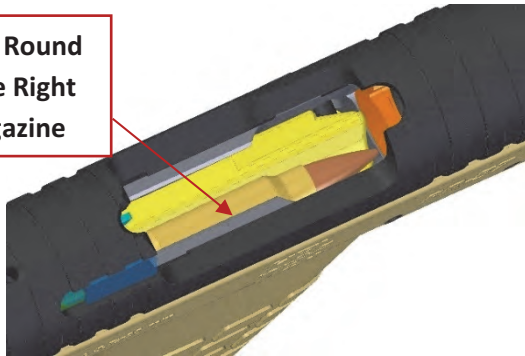

Figure 4. First Round in Magazine
1. To start loading, pull the slide all the way back to lock it open with the slide stop. Insert a cartridge just below the feed lips (*Figure 4*), then press the cartridge down and back until it is properly seated and retained in the magazine. Add subsequent rounds by placing them on top of the secured round and repeating the previous process.
NOTICE If the first round fails to properly seat as shown in *Figure 4*, it will result in limited capacity and / or feeding failures of the weapon.